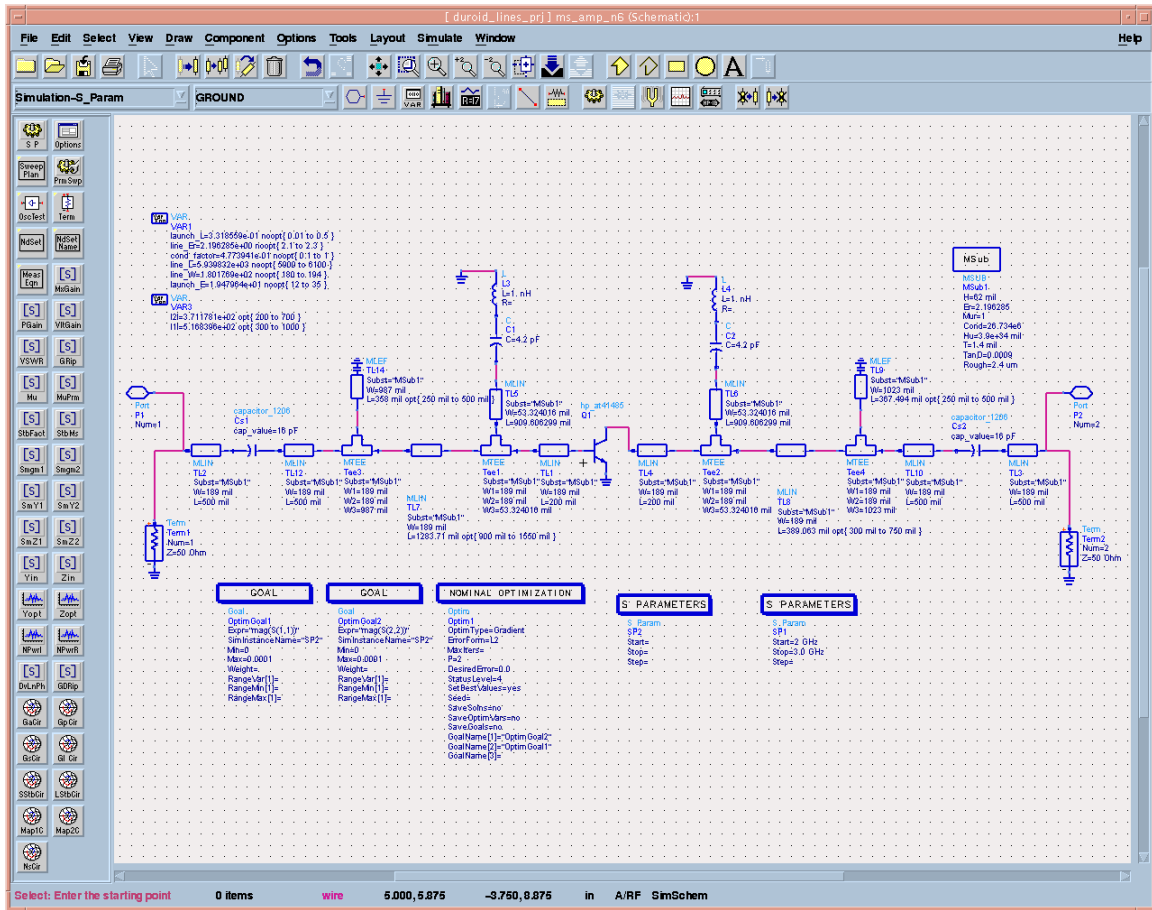

Figure 2. Example schematic for optimizing input and output matching networks.
- 2.) We'll also want to install DC blocking capacitors on the input and output lines to prevent the DC bias of the transistor from being loaded by the source and load, while still permitting the microwave signal to pass unimpeded. A series-resonant capacitor is nearly ideal for this purpose. A pre-made model of the available chip capacitors including the series inductance and layout geometry is available on the course web site in the lab 8 section (filename: capacitor.zap). Download this file, and unarchive it (from the main ADS window chose File/Unarchive Project and select the downloaded file). Choose "Use technology compatible with ADS only" and hit next; then select "Create a technology automatically..." and click "finish." When it asks to open the new ADS workspace, select "no." From the main ADS window, select "Manage Libraries" and choose "Add Library Definition File." Browse to find the unarchived project (the default is capacitor_wrk), and click "Open" to allow this model to be accessed in your design. Note that this file contains models for both 1206 and 0805 sized surface-mount capacitors; be sure to select the correct size for the lab's inventory of capacitors at the value you need (once you calculate what capacitance you need, ask the instructor what form factor you should select based on our inventory). From the design schematic, insert a capacitor of the correct physical size (1206 or 0805) at both the input and output (you can find the components in the "Insert/Component Library menu, under Workspace Libraries") and right-click on the correct one (either capacitor_1206 or capacitor_0805) to place it in your schematic. Set the capacitance to the value necessary for self-resonance at your design frequency. Add an additional 0.25-0.5 inch of transmission line at both the input and output to allow for the mounting of a connector to the board. The result should look something like Figure 2.
- 5.) Set up the circuit for optimization of the lengths of the stubs and widths of any $\lambda/4$ transformers. Set reasonable bounds on these parameters, and devise an optimization scheme to achieve your design. For maximum gain, this corresponds to minimizing s_{11} and s_{22} at your design frequency. For an LNA, you want to minimize s_{22} , but insure that Γ_s is correct for your design. An example schematic for the maximum-gain case is shown in Figure 2--this is not directly applicable for an LNA design. It is often easiest to use variables to set the lengths and/or widths of the transmission lines for optimizations like this, since this way MTEEs and balanced stubs can automatically sized correctly.